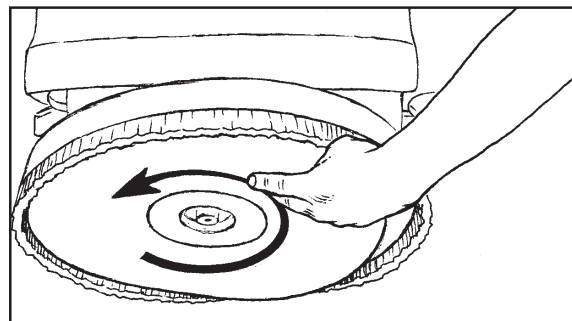

Figure 20
- Raise the brush head by pressing and holding the brush up switch until brush head is in its full up and rotated position (See Figure 20).
- Push the brush up and rotate counter direction to scrub rotation, until lugs lock (See Figure 20).